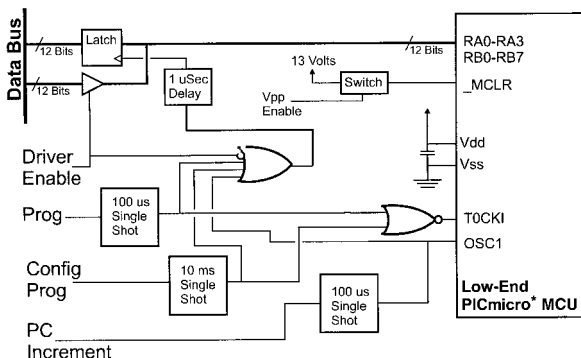

Figure 9.1 Low-End PICmicro[®] MCU Programmer
A programmer designed for low-end PICmicro[®] MCU programming generally looks like Fig. 9.1.
4. A programming pulse is driven that reads back the word address to confirm the programming was correct. In Fig. 9.1, the read-back latch is loaded on the falling edge of the “on” gate to get the data driven by the PICmicro[®] MCU.